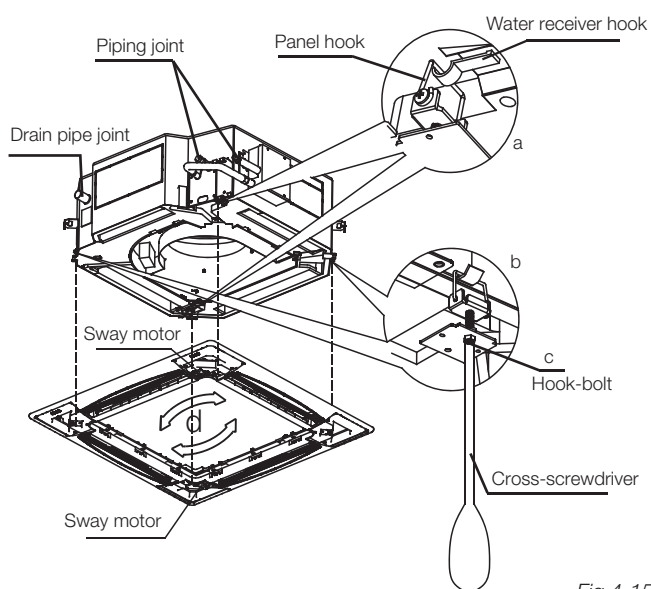

Fig.4-15
- 2) Fix hooks of the panel at swing motor and its opposite sides to the hooks of corresponding water receiver. (Refer to Fig.4-15 a) Then hang the other two panel hooks onto corresponding hangers of the body. (Refer to Fig.4-15 b)
- 4) Adjust the four panel hook screws to keep the panel horizontal, and screw them up to the ceiling evenly. (Refer to Fig.4-15 c)